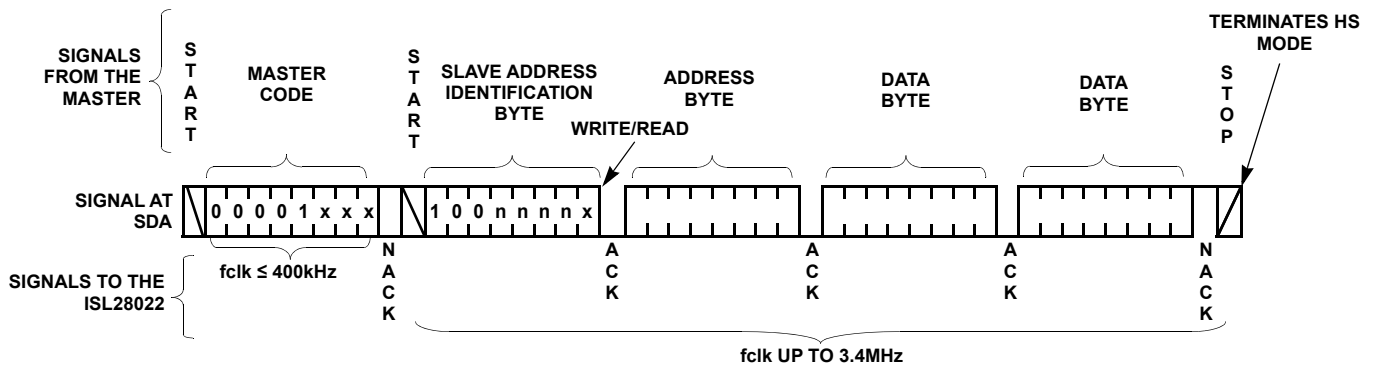

FIGURE 32. BYTE TRANSACTION SEQUENCE FOR INITIATING DATA RATES ABOVE 400kbs
Following an idle bus condition (SDA and SCL lines are pulled high by the pull-up resistors), the master generates a start condition followed by a valid serial byte that contains the high-speed (HS) master code 00001XXX. This transmission is made in standard or fast mode at no more than 400kHz. The ISL28022 does not acknowledge the HS master code but does recognize it and switches its internal filters to support 3.4MHz operation. Figure 32 illustrates the data sequence for the HS mode.